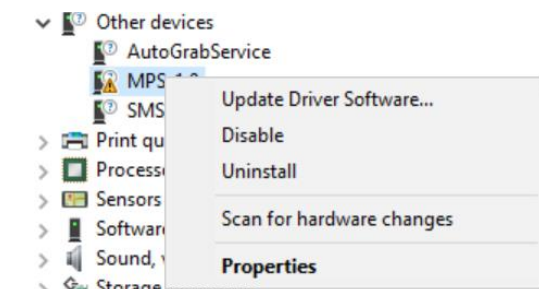

Figure 11: Updating the Driver Software
1. Open the Device Manager and select “Update Driver Software” (see Figure 11).